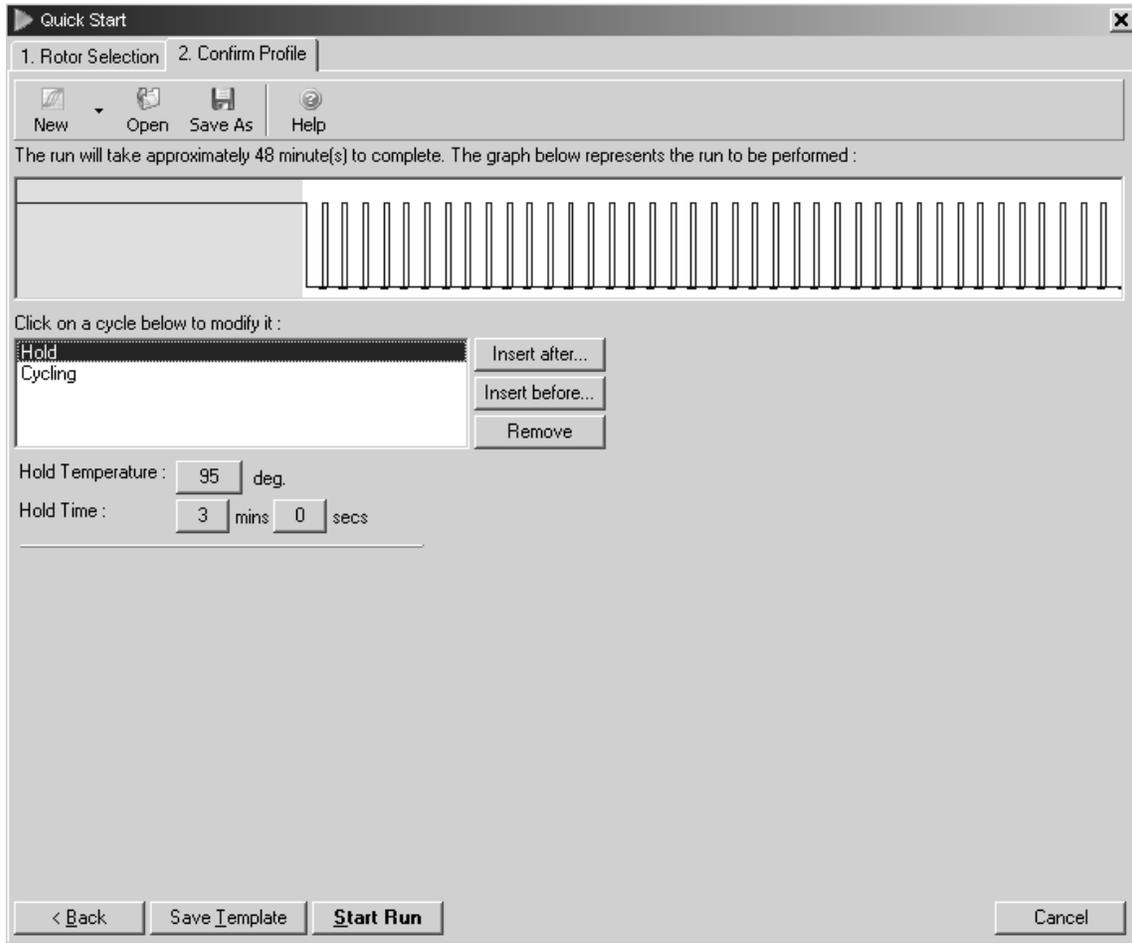

Figure 1. PCR initial activation step. PCR requires an initial incubation at 95°C for 3 min to activate HotStarTaq *Plus* DNA Polymerase.
- 5. Program the Rotor-Gene cycler according to the program outlined in Table 2 (page 13) and Figures 1 and 2 (page 14 and 15).**